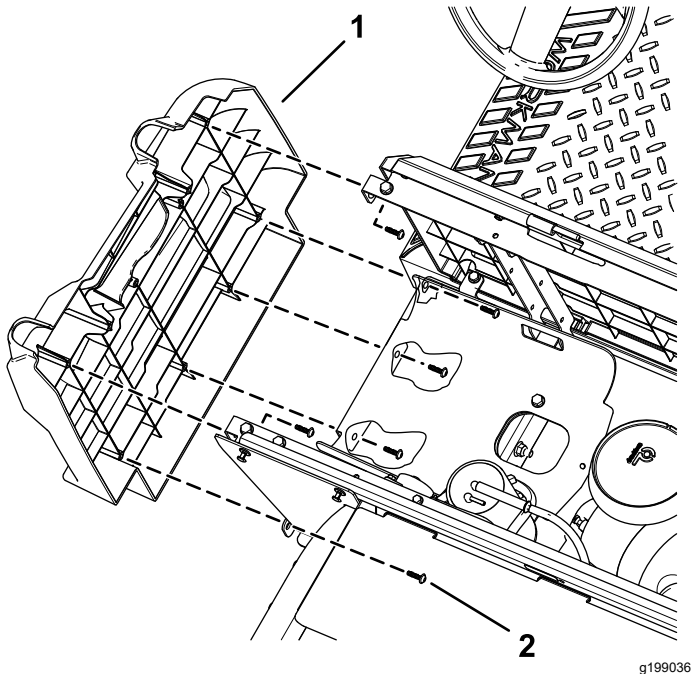

Figure 9
- Remove the 6 torx-head screws (M6.0 x 22 mm) from the left side panel and remove the side panel (Figure 9).